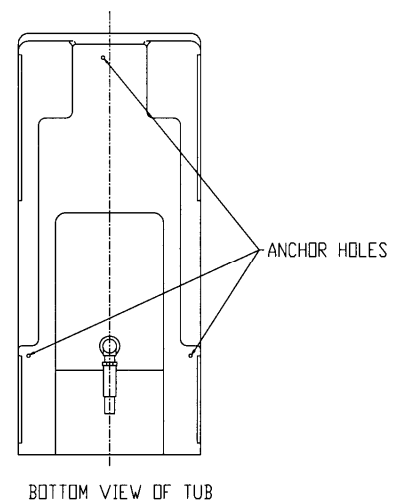

Figure 3
3/4" supply lines with on/off valves with 3/4" NPT female threads. We recommend 3/4" ball valve with 3/4" NPT female ports. Valves supplied by others. See figure 3 or 4 for recommended locations.
These instructions for anchoring the tub are written with the assumption that the installation is being done on a concrete floor. If this is not the case, the tub can be anchored with simple lag screws (not provided). There are three anchoring holes for anchoring the tub. See **figure 3**.
3. Mark the anchor hole locations on the floor. See figure 3.